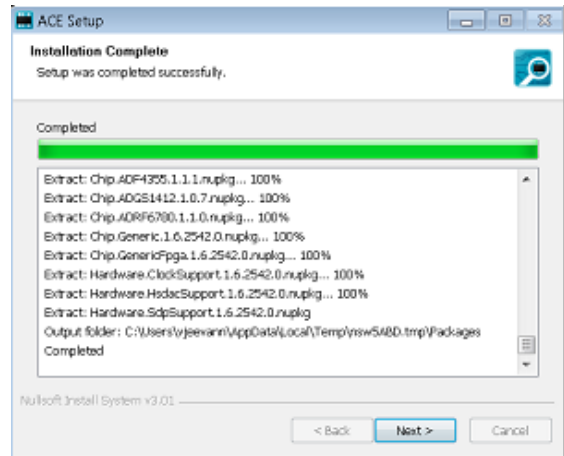

Figure 9. Installation Complete
- The installation is complete (see Figure 9). Click **Next >** and then click **Finish** to complete the installation.